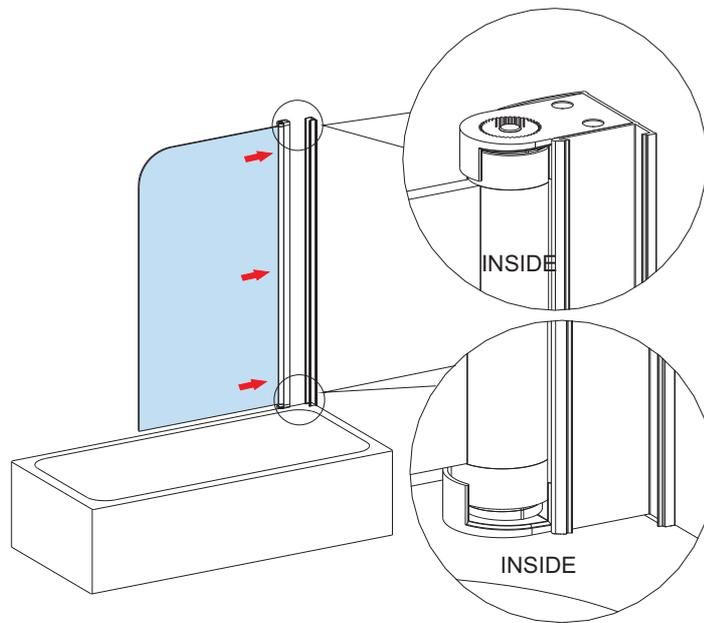

FIG 4
4. Insert the screen into the wall profile. Ensure the bottom edge of the moving panel is parallel to the top surface of the bath. Make sure open side of bracket is to the inside. **FIG 4.**